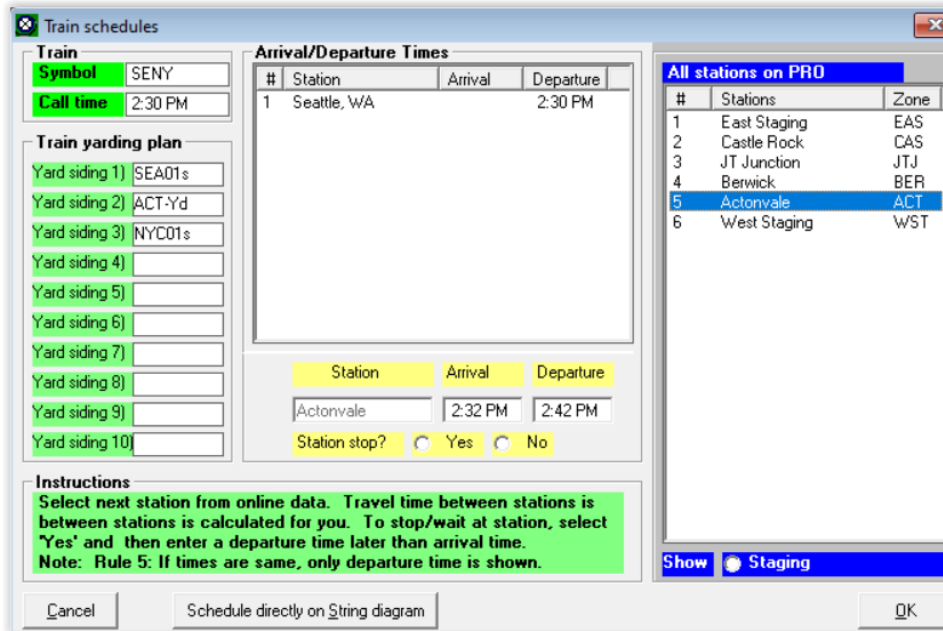

Figure 12-25
- a. Double click on Actonvale in the right hand panel to place Actonvale in the station stop editing fields. The Train schedules window should now appear as in Figure 12-25